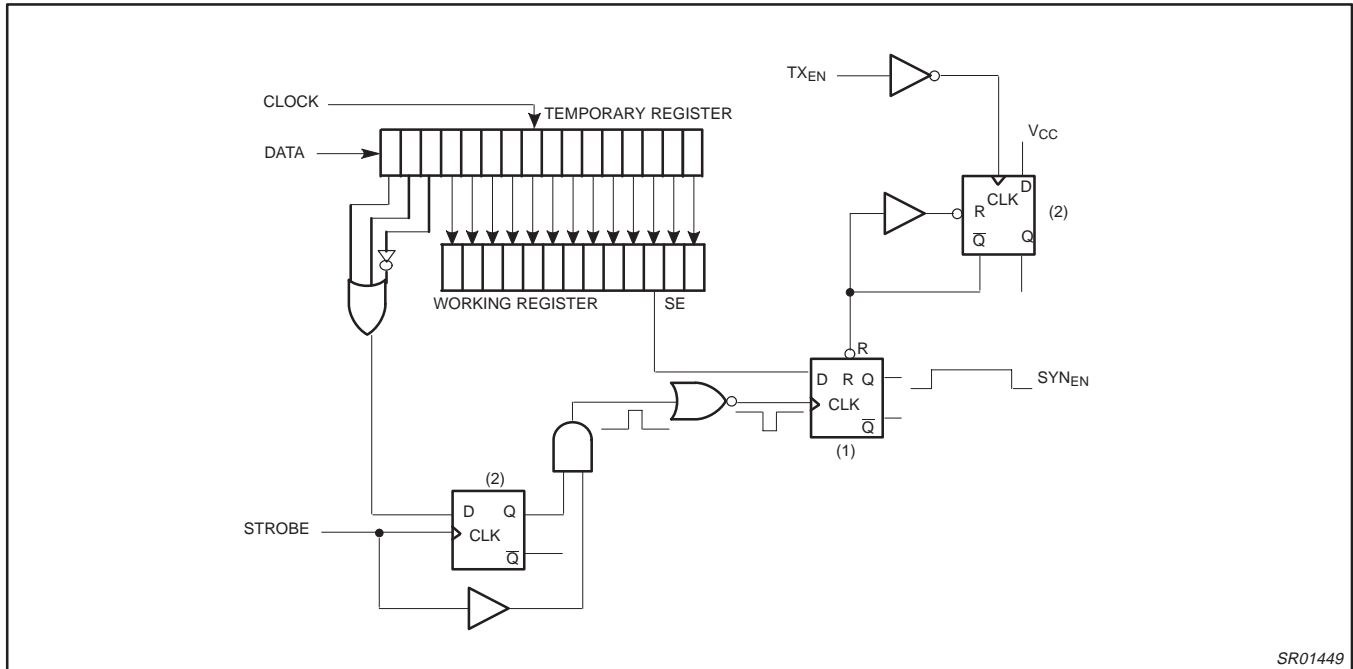

Figure 6. Transmit Offset Synthesizer Reset Circuit
In Figure 6, the falling edge of the strobe and address, inverted, toggles the Q output of flip-flop (1) to a '1' state, enabling the phase detector, VCO, divide by M, TX_{IF} buffer and SSB up-converter. Approximately 80µs after the synthesizer is locked, the TX_{EN} signal (enabled = 1) turns on the modulator and variable gain amplifier. The rising edge of TX_{EN} has no effect on SYN_{EN}, however, the falling (rising inverted) edge toggles the Q output of D flip-flop (2) to a '0' state. This disables the synthesizer, modulator and variable gain amplifier. To insure that slow edges on TX_{EN} do not cause improper operation, the TX_{EN} is a Schmitt trigger design.